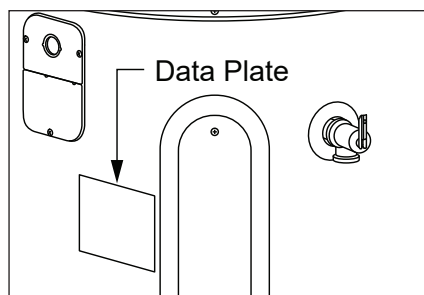

Figure 22 - The water heater’s electrical requirements can be determined from the data plate.
**1** This water heater requires a 120 VAC single phase 15 amp power supply, at 60Hz. Check the water heater’s data plate (Figure 22) and ensure that the home’s voltage, wiring size (ampacity) and circuit breaker rating and type are correct for this water heater. Refer to the wiring diagram located on the water heater, and on page 38 of this manual, for the correct electrical connections. Ensure that wire sizes, type, and connections comply with all applicable local codes. In the absence of local codes, follow NFPA-70 and the current edition of the National Electric Code (NEC).